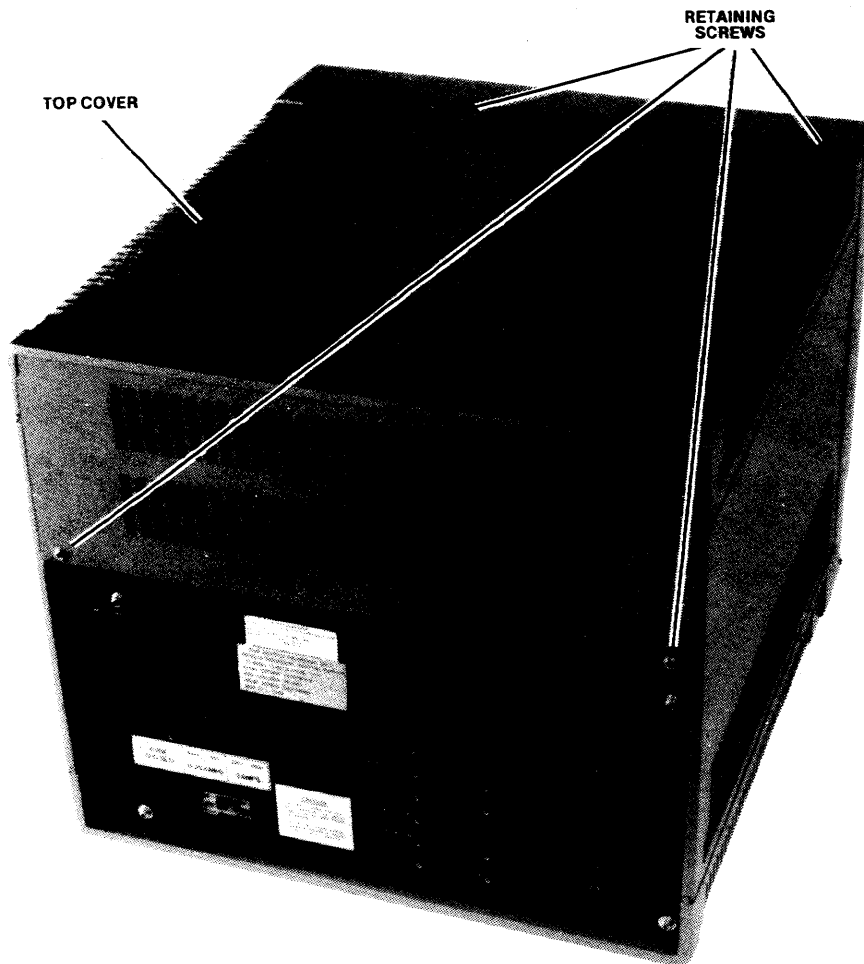

Figure 2-1. Mainframe Top Cover Retaining Screws
- c. Refer to figure 2-1 and loosen top cover of mainframe by removing the two screws near front of cover and the two screws on rear of cover. Lift off top cover.